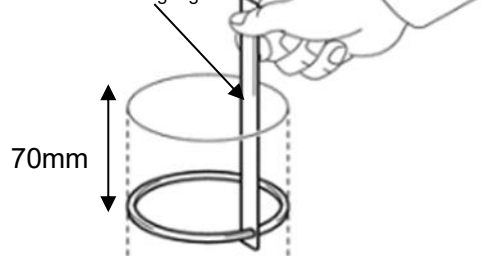

Fig 3
4.1 Place the piston ring in the middle of the cylinder using a piston (See the Fig 3)